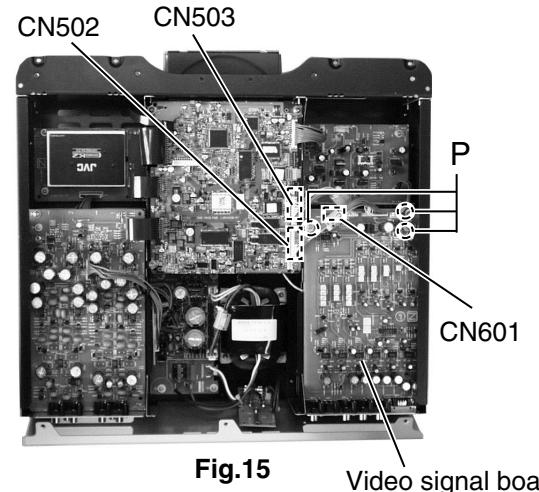

Fig.15
■ Removing the video signal board(See Fig.15,16)